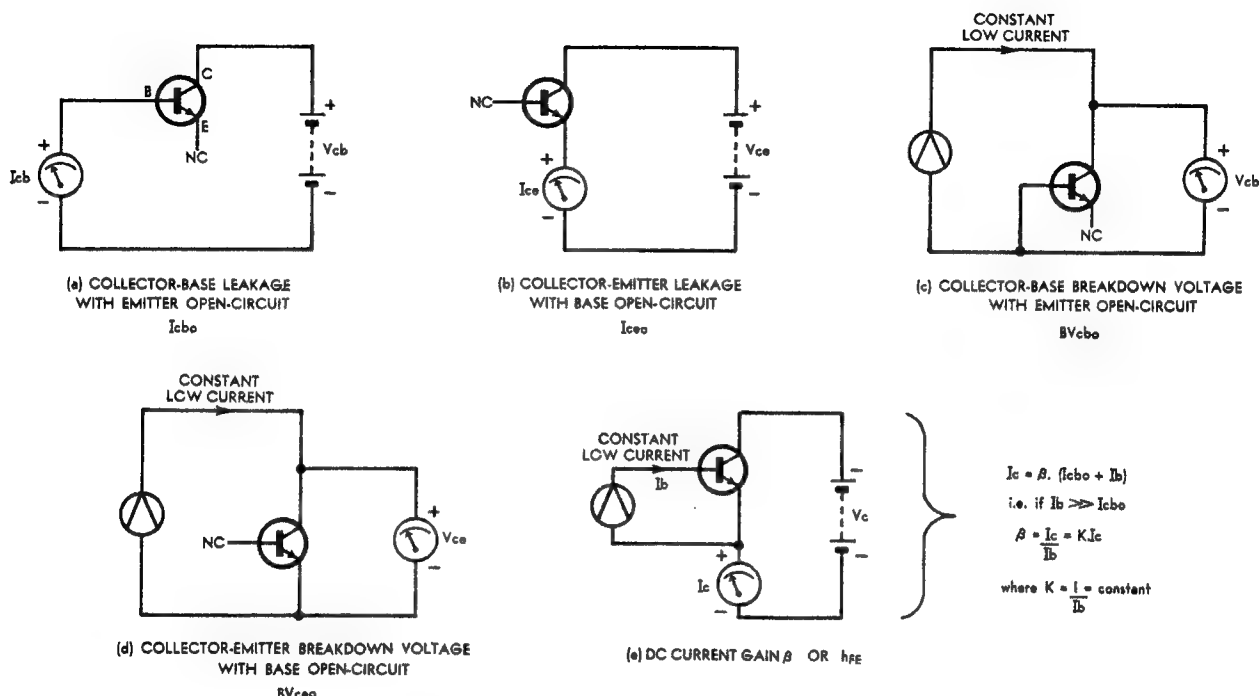
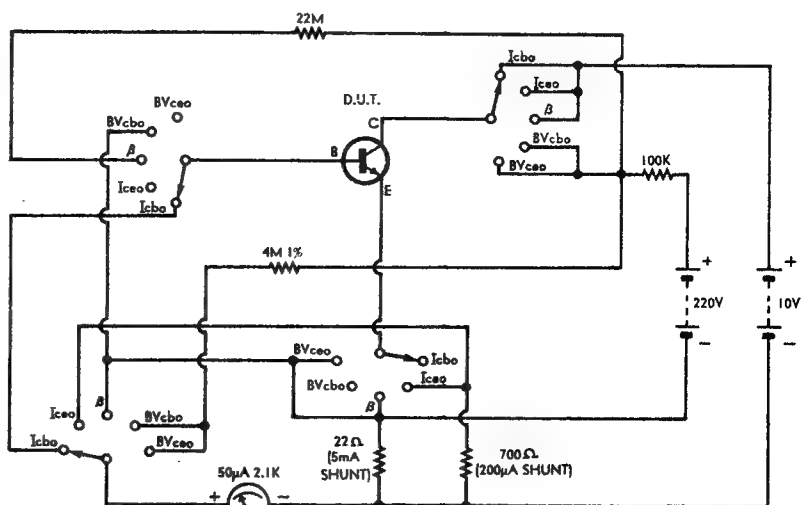

Figure 4
Figure 5
**BIPOLAR TRANSISTORS:** Five of the most basic and useful tests available for evaluating bipolar transistors are illustrated in figure 4. (The circuit symbols and polarities shown are those for NPN devices; for PNP devices the circuits would be unchanged but the transistor symbols and polarities changed appropriately.) There are two tests concerned with leakage currents, and two concerned with breakdown voltage drops; the final test deals with DC current gain.
The usual method of measuring the reverse-bias leakage current of the collector-base junction is shown in figure 4 (a); as may be seen the circuit involved is similar to that used in figure 1(c) for a diode. As the test is made with the emitter disconnected the leakage current measured is designated  $I_{cb0}$ , where the "0" signifies that the third electrode of the device is left open circuited.
While measurement of  $I_{cbo}$  shows the basic leakage current of a transistor, it does not indicate the extent to which leakage will tend to influence the behaviour of the transistor in circuit. The latter behaviour will tend to depend largely upon the current gain; accordingly it is usual to make a second leakage measurement, using the circuit shown in figure 4 (b). The quantity measured in this case is  $I_{ceo}$ , the collector-emitter (amplified) leakage current with the base left open circuit.
The fifth transistor test illustrated in figure 4 is that for DC common-emitter current gain, shown in diagram (e). This transistor characteristic is commonly known as  $\beta$  (beta) or  $h_{FE}$ .
Figure 5 shows a practical bipolar transistor test circuit based upon the five tests shown in figure 4. Again a protected 50uA meter movement is
If the  $BV_{ebo}$  of a device were to be measured, this test could be performed with the circuit of figure 5 using the method noted earlier, which involves temporarily inserting the device with collector and emitter leads transposed. The reading required will then be obtained on the  $BV_{cbo}$  range.